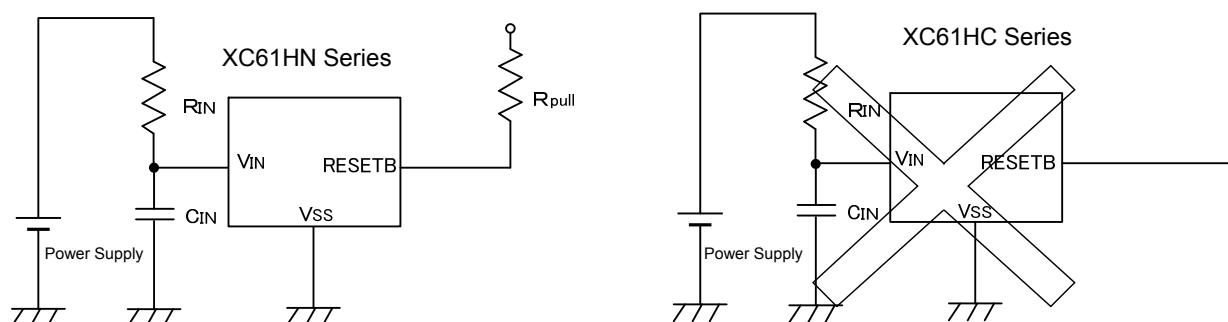

Figure 1 Use of input resistor R_{IN}
2. When a resistor is connected between the V_{IN} pin and the power supply with CMOS output configurations, irregular oscillation may occur as a result of voltage drops at R_{IN} if load current (I_{OUT}) exists. It is therefore recommend that no resistor be added. (refer to Figure 1 below)
4. If a resistor (R_{IN}) must be used, then please use with as small a level of input impedance as possible in order to control the occurrences of oscillation as described above. Further, please ensure that R_{IN} is less than $10k\Omega$ and that C_{IN} is more than $0.1 \mu F$, please test with the actual device. However, N-ch open drain output only. (Figure 1).